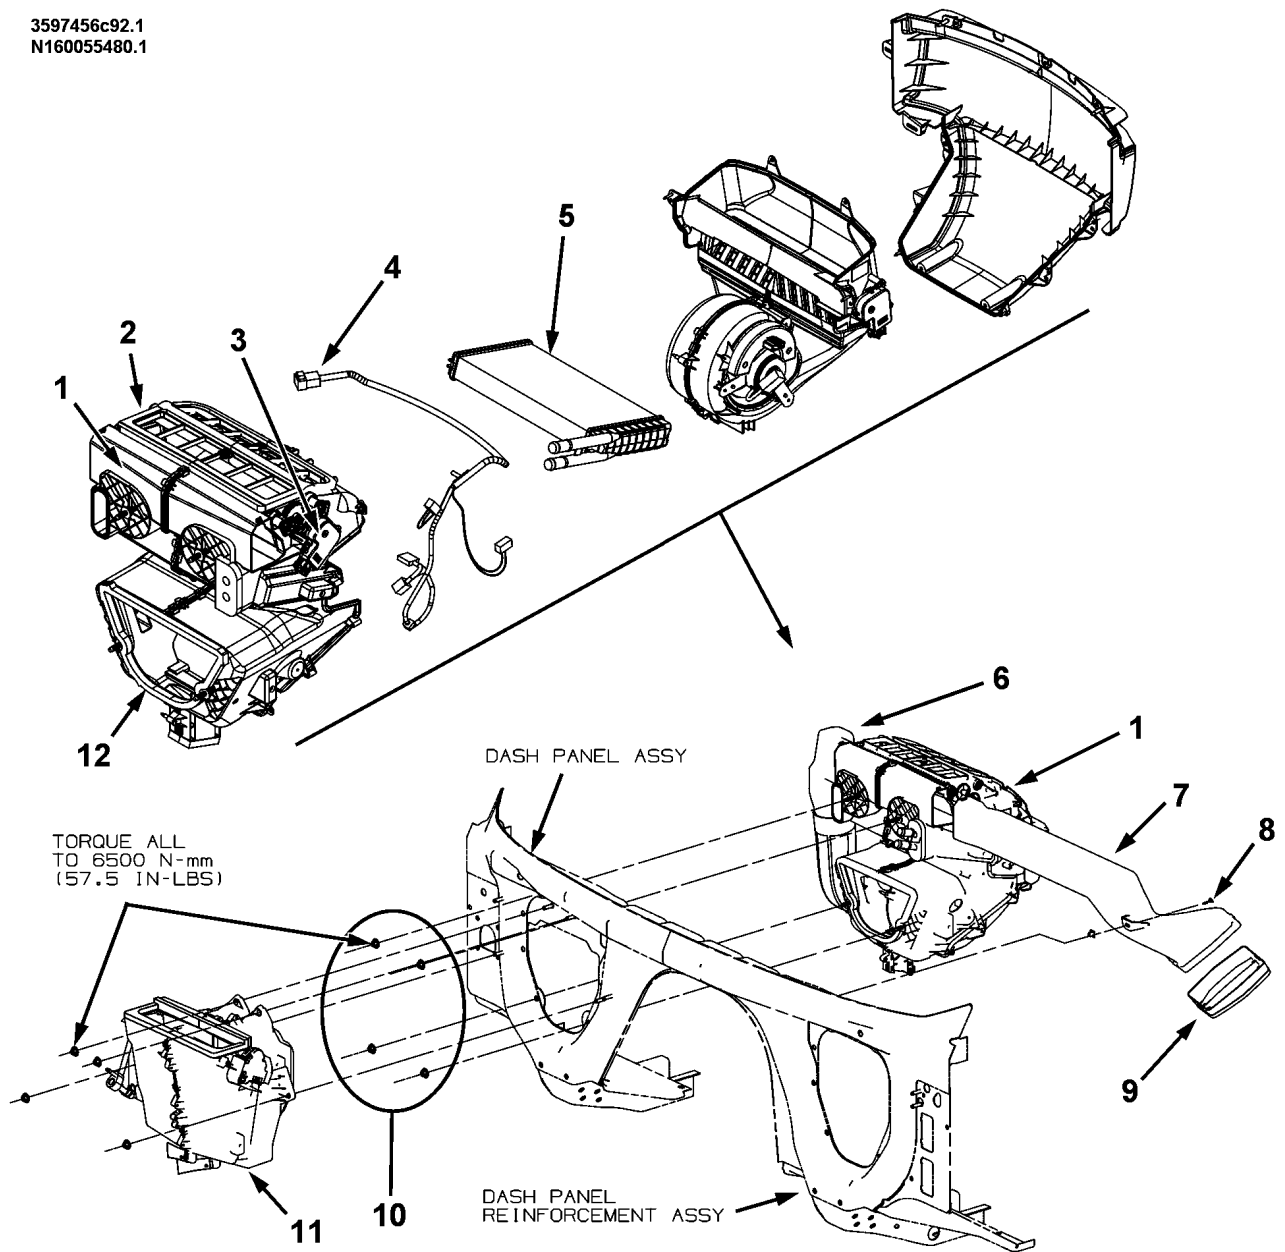
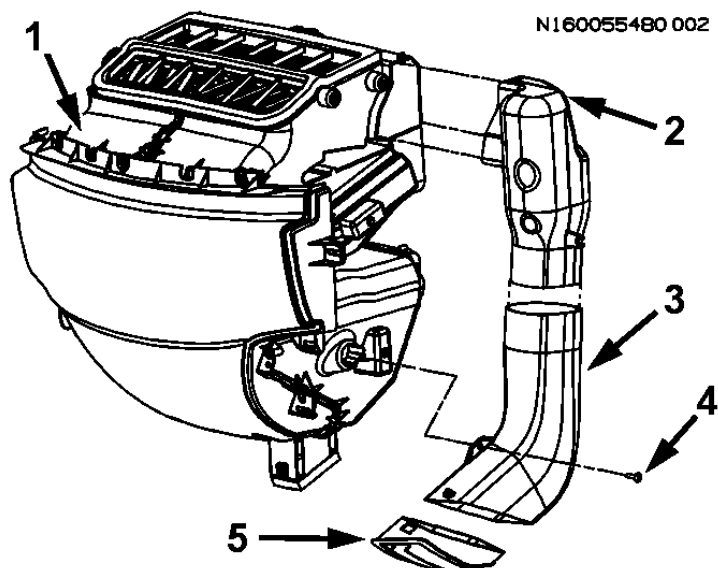

Figure 33 Heater Housing Mounting Diagram
Figure 34 Passenger Side Air Duct
5. To gain access to mounting nuts (10, Figure 33) for the heater housing (1), the evaporator housing (11) must be removed from the cowl. Refer to REMOVE AND INSTALL, AIR CONDITIONER (EVAPORATOR) HOUSING (See AIR CONDITIONER (EVAPORATOR) HOUSING, page 71)
6. Remove heater core (5) from heater housing, refer to REMOVE AND INSTALL, HEATER CORE, (See HEATER CORE, page 87).
7. Disconnect HVAC wiring harness (4) from instrument panel wiring harness.
9. Disconnect passenger side floor duct (Items 2, 3, and 5, Figure 34) from heater housing.
- a. Bottom section of duct is mounted to side of housing with one screw (4). After removing screw, bottom section may be removed to provide better access to top section.
10. Remove mounting screw (8, Figure 33) from driver side floor duct (7) and move duct left to disconnect it from housing.
11. On engine side of dash panel, remove four nuts (10) from heater housing mounting studs.
12. Pull heater housing to rear (to allow its mounting studs to clear dash panel). Heater housing (1) should now be clear to slide out from under IP.
13. If mode door actuator (3) is being transferred to a replacement heater housing, remove two screws securing actuator to housing (1), and pull actuator straight off of mode door shaft.
1. Carefully slip mode door actuator (3, Figure 33) from removed housing, onto end of mode door shaft so that mounting holes are properly aligned, if possible. If actuator drive collar must be moved to allow alignment:
4. With IP raised, carefully position heater housing (1, Figure 33) under passenger side instrument panel, so that its mounting studs protrude through matching holes in dash panel.
5. On engine side of dash panel, secure heater housing by installing four nuts (10) on mounting studs. Tighten to 5,400 to 7,600 N.mm (47.5 to 67.5 lbf-in).
6. Connect top section of passenger side floor duct (2, Figure 34) to outlet of heater housing (1). This is a slip-lock type snap joint.
7. Slip bottom section of passenger side floor duct (3) onto top section and secure to side of heater housing using one screw (4). Attach diffuser (5) if it was removed.
8. Connect driver's side floor duct (7, Figure 33) to heater housing by slipping end of duct over heater housing outlet. Secure floor duct to dash panel under instrument panel using its mounting screw (8). Attach diffuser (9) if it was removed.
10. Connect HVAC wiring harness (4) to instrument panel wiring harness.
11. Install heater core (5) and all related heater components, refer to REMOVE AND INSTALL, HEATER CORE, (See HEATER CORE, page 87).
12. Install evaporator housing (11) onto cowl. Refer to REMOVE AND INSTALL, AIR CONDITIONER (EVAPORATOR) HOUSING (See AIR CONDITIONER (EVAPORATOR) HOUSING, page 71)